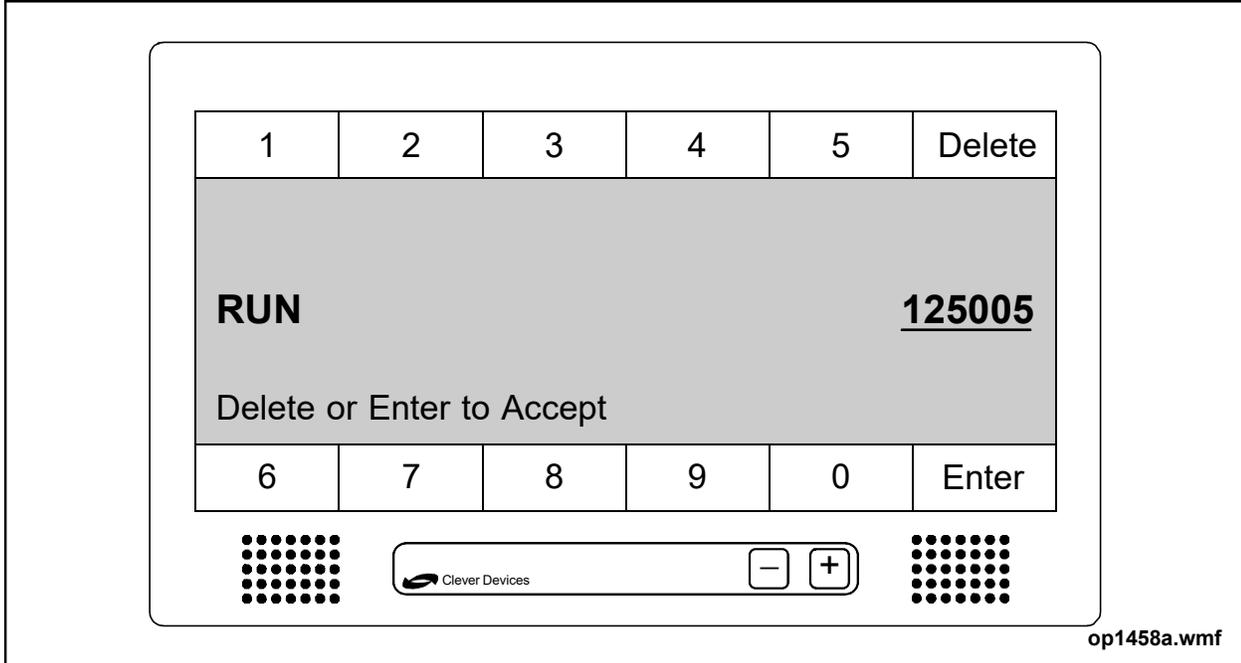

Figure 21: Run Entry Screen
- Press the <Enter> softkey when the Operator ID is correctly entered. The Run Entry screen will appear. See “Figure 21: Run Entry Screen” on page 54.